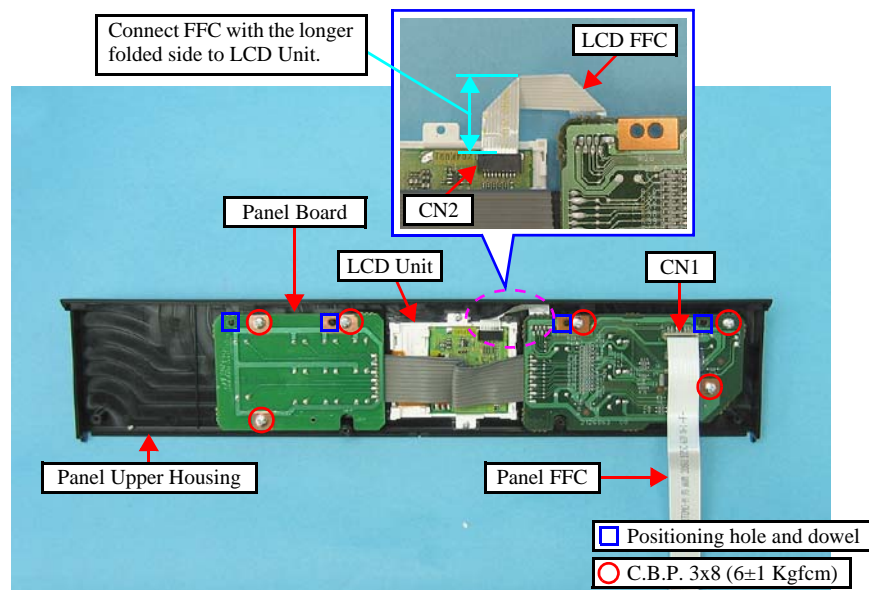

Figure 4-45. Removing the Panel Board (4)
- When installing the Panel Board, align the positioning holes (x4) of the Panel Board with the dowels (x4) of the Panel Upper Housing. (See Figure 4-45.)
- When connecting the LCD FFC, connect the longer folded side to the LCD Unit as shown in Fig. 4-45.